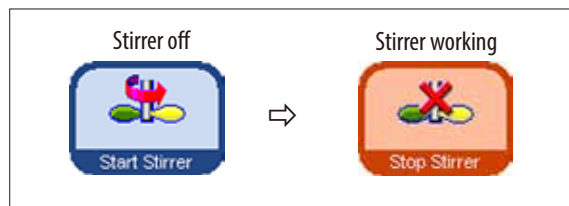

Fig. 131
- The stirrer can be started and stopped again. When the button is colored orange, the stirrer is working (Fig. 131).